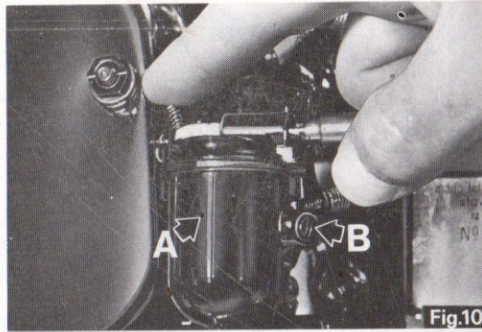

Fig.10
4. Press the tickler (Fig. 10) on top of the carburettor float chamber two or three times, or until petrol just begins to overflow from the hole (A Fig. 10).
The same procedure as starting from cold should be adopted except do not close choke, but flooding of the carburettor by pressing tickler (Fig. 10) may be necessary.